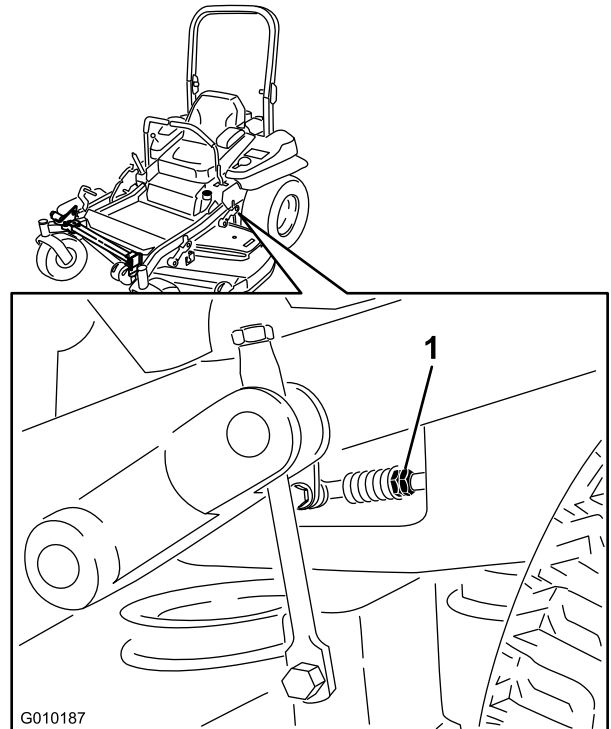

Figure 80
8. Adjust the pump control rod lengths by rotating the double nuts on the rod in the appropriate direction until the wheels slightly creep in reverse (Figure 80).